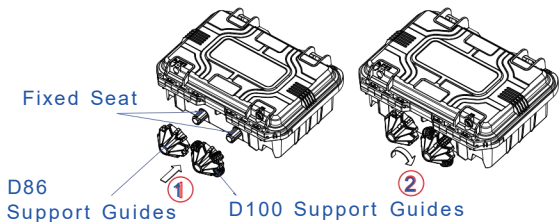

Figure 8. Fixed Support Guide
3. Install the 86 and 100 support guides onto the bracket fixing seat (Figure 8.)